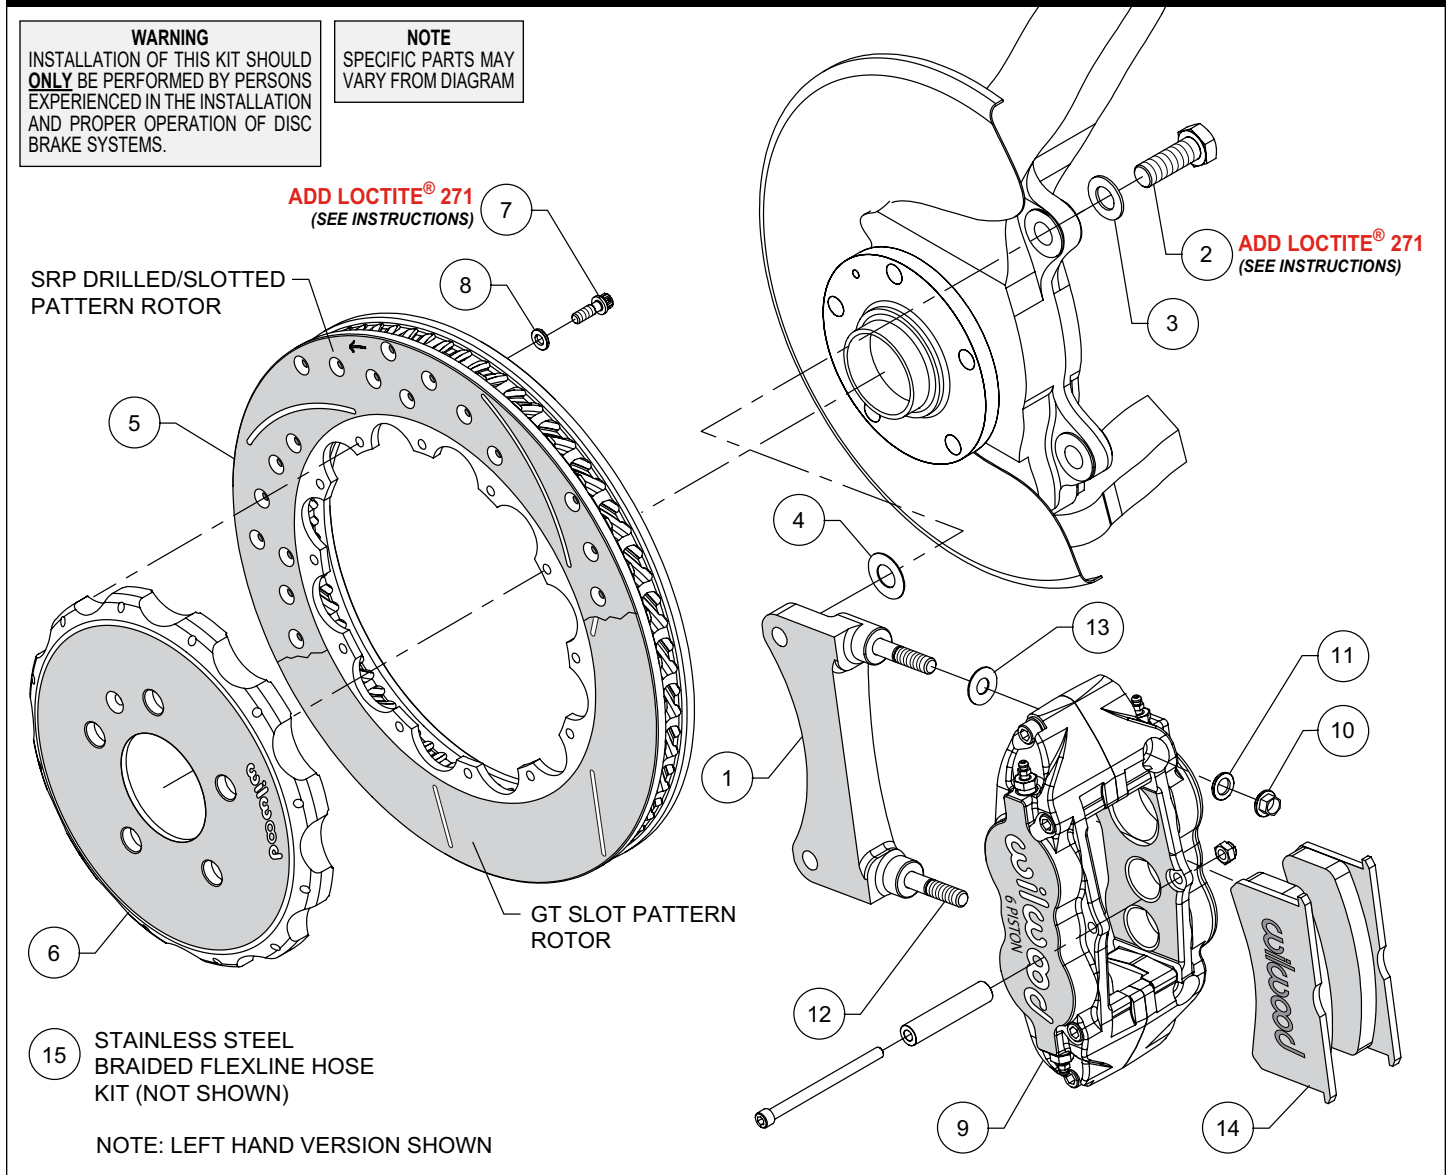
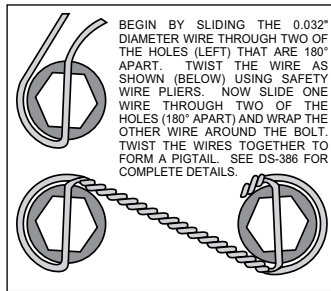

Figure 1. Typical Installation Configuration
Figure 3. Safety Wire Diagram
Assembly Instructions (numbers in parenthesis refer to the parts list and Figure 1 on the preceding pages):
- The caliper mount bracket (1) should initially be installed with clean, dry threads on the mounting bolts. Orient the bracket as shown in Figure 1 and Photo 1, and install using bolts (2) and washers (3). Initially place one .029 thick shim (4) on each bolt between the bracket and upright, Figure 1. Temporarily tighten the mounting bolts. **NOTE: The bracket must fit squarely against the mounting points on the upright.** Inspect for interference from casting irregularities, machining ridges, burrs, etc. Later, after the caliper alignment has been checked, the mount bolts will be secured using red *Loctite*® 271.
- Orient the rotor (5) and the hat (6) as shown in Figure 1 and Photo 2. Attach rotor to hat using bolts (7) and washers (8). Apply red *Loctite*® 271 to the bolt threads and torque to 155 in-lb using a criss-cross pattern. For an added measure of security, the bolts may be safety wired using standard 0.032 inch diameter stainless steel safety wire as shown in Figure 3. Please refer to Wilwood's data sheet DS-386 (available at www.wilwood.com/Pdf/DataSheets/ds386.pdf) for complete safety wire installation instructions.
- **NOTE: This kit contains distinct right and left hand calipers that must be mounted in a specific direction, as described below.** Initially place one .035" thick shim (13) on each stud (12) between the caliper and the bracket, as shown in Figure 1 and Photo 5. Mount the caliper (9) onto the bracket (1) using lock nuts (10) and washers (11), Figure 1. Ensure that the caliper is mounted so the largest pistons are at the rotor exit end of the caliper, in relation to the direction of rotor rotation. Temporarily tighten the lock nuts and view the rotor through the top opening of the caliper. The rotor should be centered in the caliper, Photo 6. If not, adjust by adding or subtracting shims (4) between the bracket and the upright. Always use the same amount of shims on each of the two mounting bolts. Once the caliper alignment is correct, remove the bracket mounting bolts (2) one at a time, apply red *Loctite*® 271 to the threads, and torque to 105 ft-lbs.